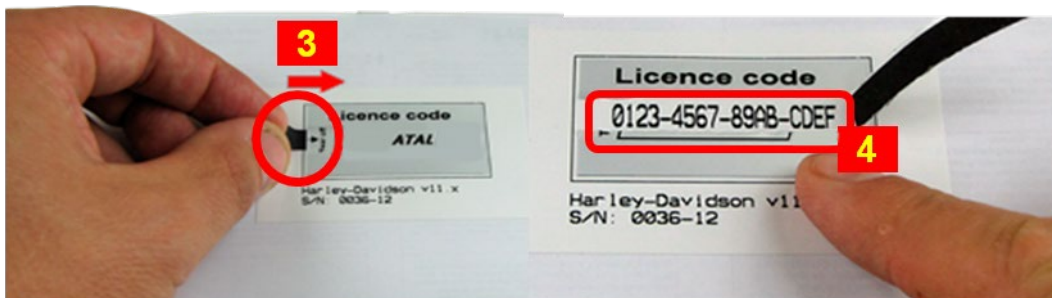

Fig. 9 – Licence code
After reading the „Important notification“ (see pos. 2, Fig. 8), removing the security seals (see pos. 1, Fig. 8) and opening the folded sheet of paper, the label with the „Licence code“ is shown that is located in one more security layer (see Fig. 9). By pulling the tag in the direction of the arrow (see pos. 3, Fig. 9) remove the last security layer under which the „Licence code“ itself is located (see pos. 4, Fig. 9). This code is to be inserted in the registration form (see chapter 4.3) into the field under pos. 3, Fig. 10.
- 3 - One or more licence code(s) – see chapter 4.2 (pos. 4, Fig. 9)